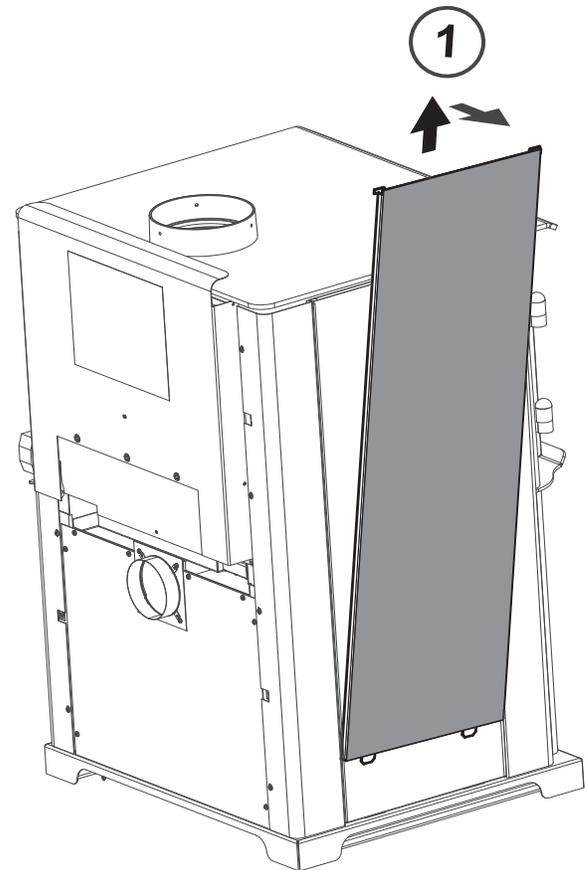

Figure 24.3
1. Remove solid panel from side by lifting up and pulling away from appliance (use a flat tool to pry from bottom if needed). **Figure 24.3**
2. Remove tile frame from side by lifting up and pulling away from appliance. **Figure 24.3 reference solid side panel removal.**